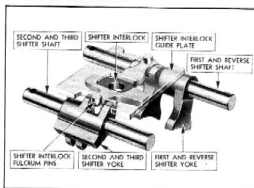

Fig. 14—Shifter Mechanism
- Lay the shifter interlock in slots in the shifter yokes, with the pins upward. The interlock shifter lies in the slots so that the hole is closer to the second and high speed shifter shaft. The illustration Fig. 14 shows the relationship of the various parts of the shifter mechanism.